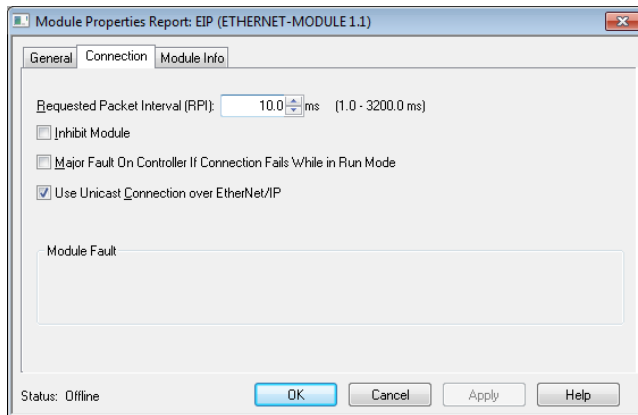

Figure 42: Module Properties Connection Tab
- 20) You should now see the new module (named “ETHERNET-MODULE Interface_Card”) in the 1756-ENBT branch under the I/O Configuration in the controller organizer view. Right click on this new module, choose “Properties”, and select the Connection tab. Refer to Figure 42.